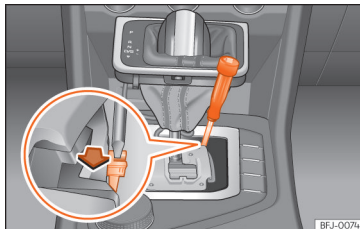

Fig. 55 Selector lever: manual release from position P.
- Using a screwdriver, press and hold the yellow unlocking tab sideways » » » **Fig. 55**.